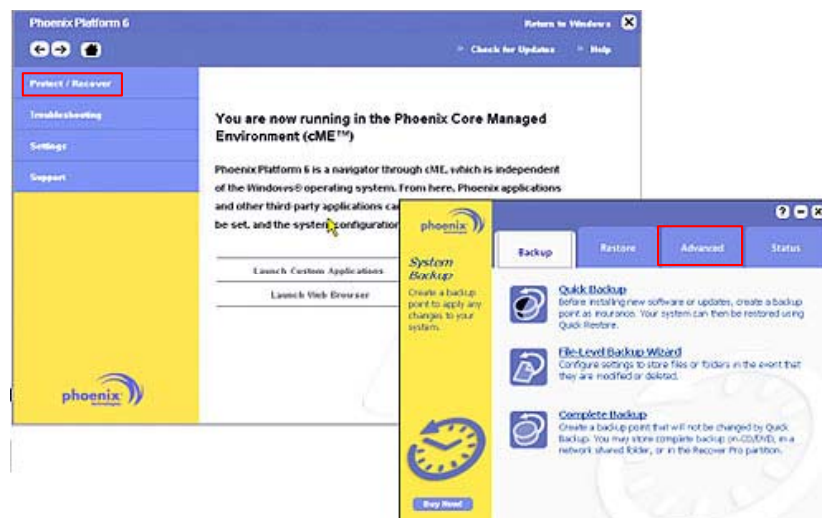

Fig. 8-2 Phoenix Always screen
- 6 From the Always menu (Fig. 8-2), select *Protect / Recover*.